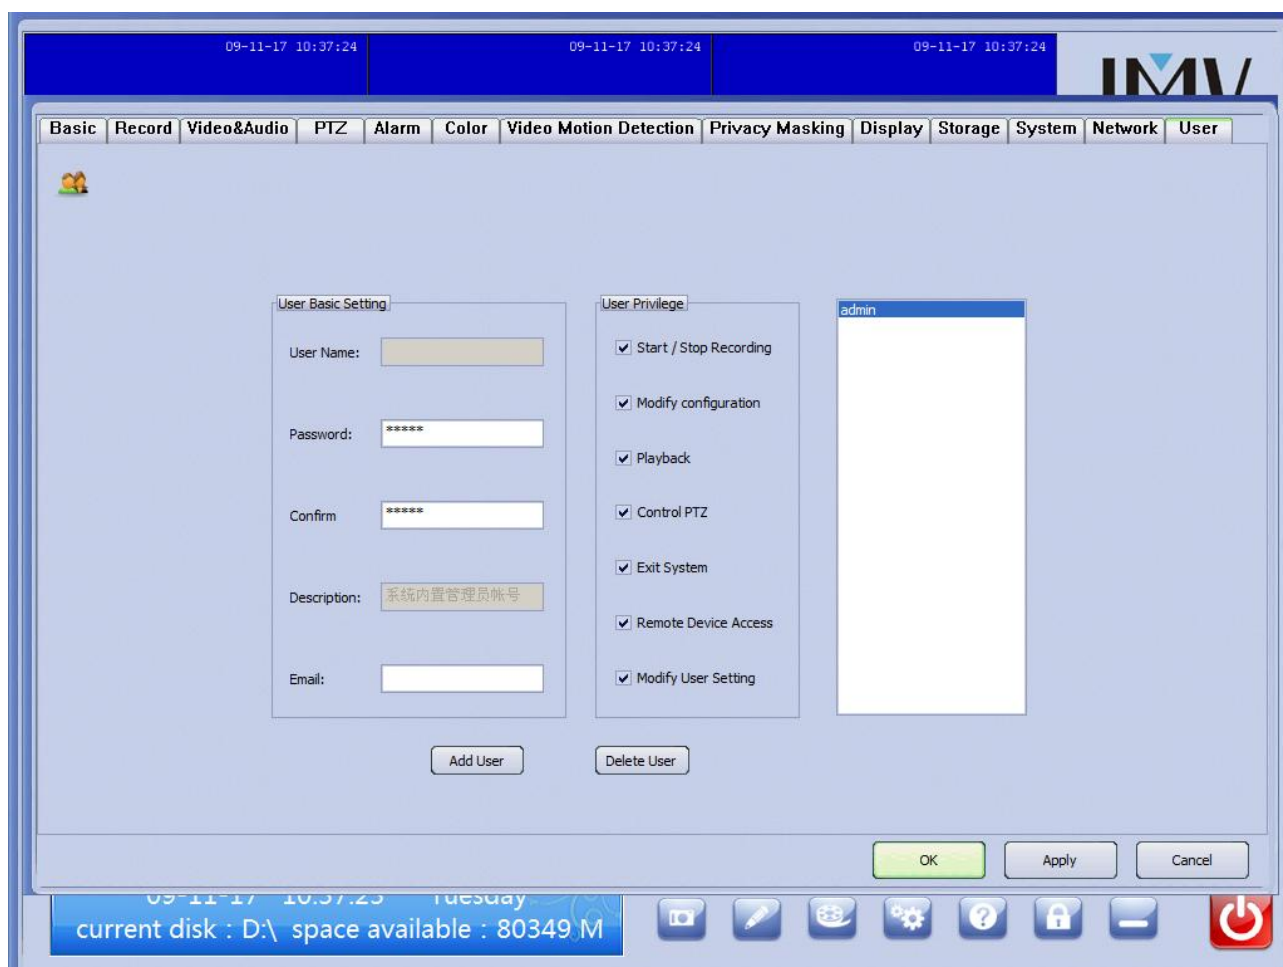

Fig. 29
3. Click "User" to open "User Setting"(fig 29):